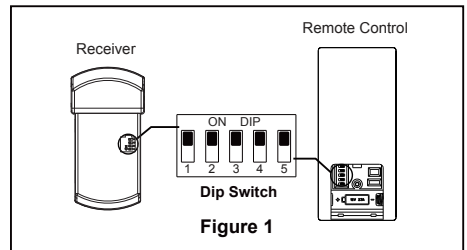

Figure 1
To avoid possible fire or shock, be sure electricity is turned off at the main fuse box before hanging. (Figure 1)
1. To set the code on receiver unit, slide dip switches to the same positions as set on the remote. (Figure 1)
1. Assemble canopy by rotating key slot in canopy over shoulder screw in hanger bracket, taking care not to pinch the wires. Tighten shoulder screw. Fully assemble and tighten second shoulder screw that was previously removed. (Figure 1)